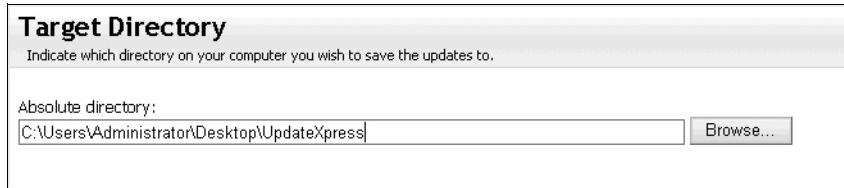

Figure 6-16 UXSPI Target Directory panel
7. Now, select the Target Directory where you want to store the files to be downloaded, as shown in Figure 6-16, and then click **Next**.